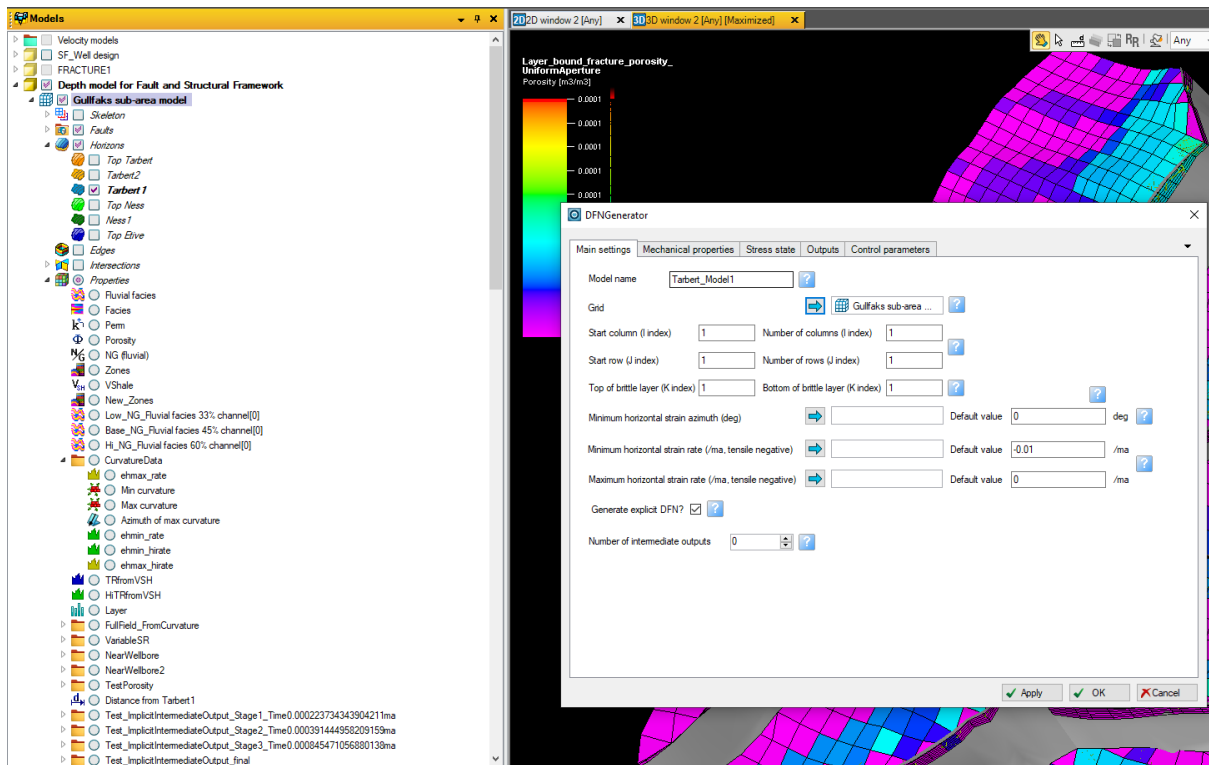

Figure 4: Select a grid object.
- **Model name (1):** Assigning each fracture model a unique name will help to identify the model output. This name will be applied to the output folders containing the implicit fracture properties as well as the DFN objects. NB The parameters used to generate each fracture model are recorded on the comments tab of the output folders and DFNs.
- **Grid (2):** The Petrel grid object representing the model geometry, and containing the input properties. Select the required grid object in the Models pane and click the blue arrow to drop it in the box (Figure 4).
- **Rows and columns (3):** Use the column and row controls to limit the model to a part of the overall grid. Leave these blank to run the model on the entire grid. NB since the model may take several hours to run on a large grid, it is recommended to run a test on a small part of the grid beforehand.
- **Brittle layer (4):** Use these controls to specify the brittle layer containing the layer-bound fractures, by inputting the K-index of grid layers at the top and bottom. Note that the brittle layer can span multiple grid layers, and need not correspond to stratigraphic layers or zones. If the brittle layer spans multiple grid layers, these will be amalgamated into "cell stacks" for the purpose of calculation. In the output data, the same fracture density values will be applied to every cell in the stack; these represent the fracture densities across the entire brittle layer.